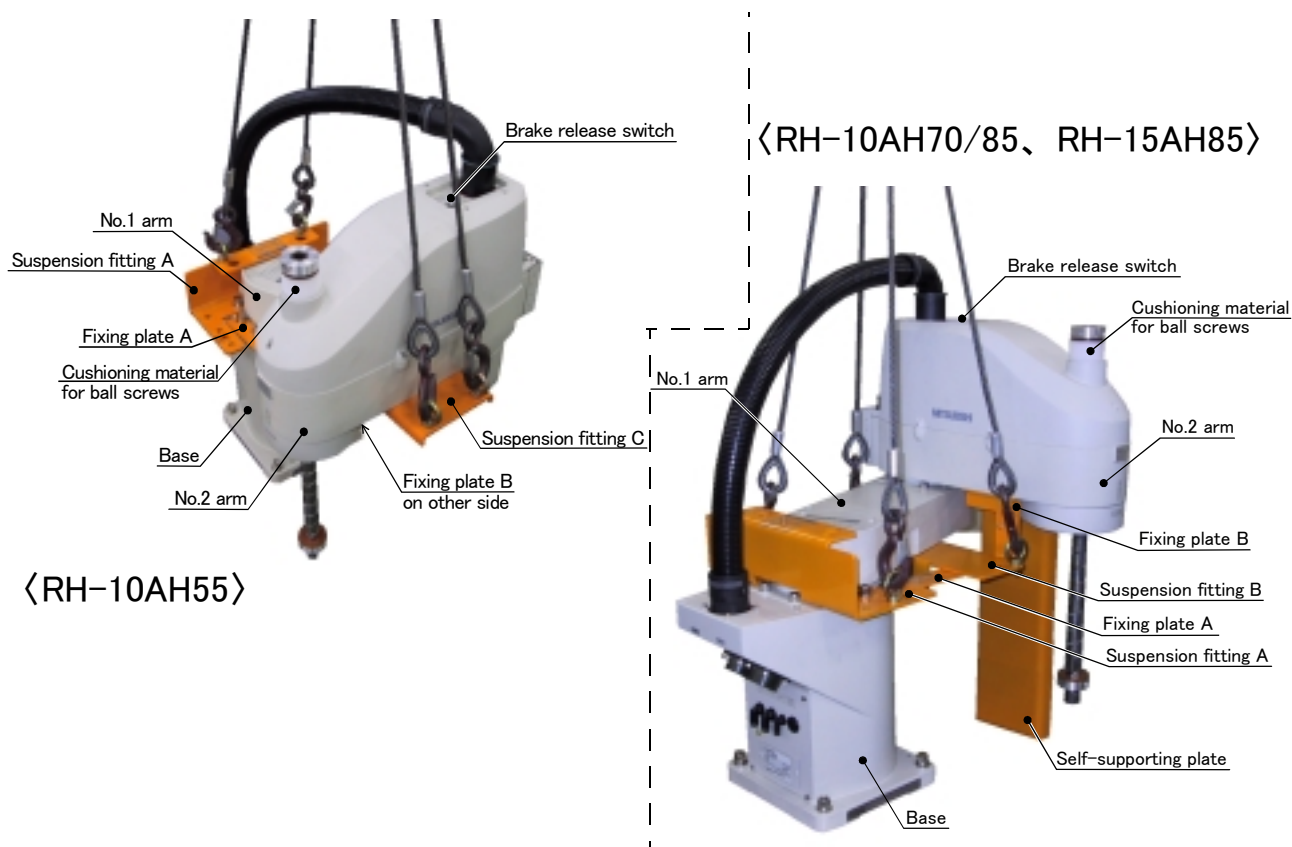

Fig.2-4 : Transportation of robot arm
- 4) After installing the robot (refer to Page 10, "Installation procedures"), remove the wires, the wire hooks (the robot will stand by itself as shown in Fig. 2-4), the self-supporting plate, suspension fitting A and B, and fixing plate A, B and C.
- 6) After installing the robot, remove the self-supporting plate, suspension fitting, and fixing plate (refer to Fig. 2-3 and Fig. 2-4).